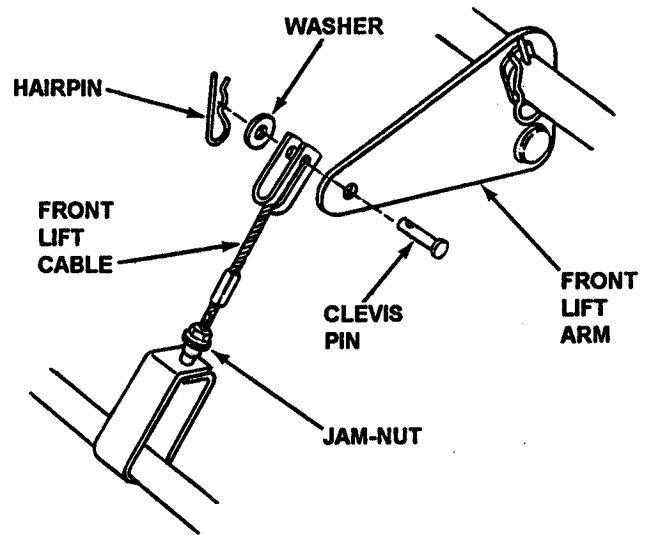

FIGURE 32
5. Disconnect the Deck Front Lift Cable by removing the Hairpin and Washer first. See Figure 32.